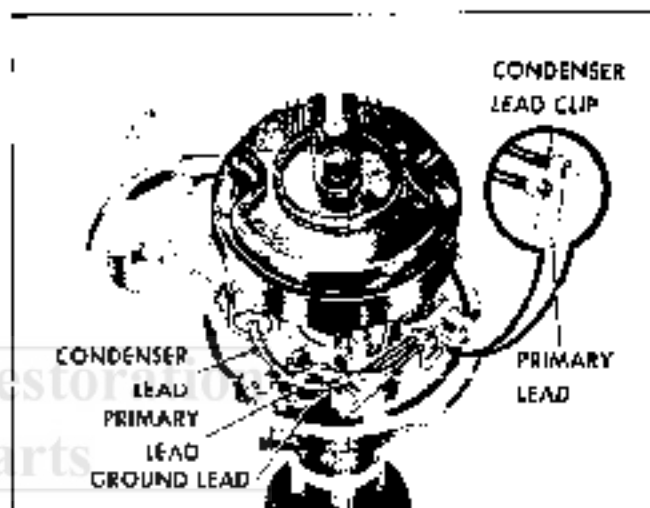

Fig. 6E-25 Arrangement of Leads
2. Remove condenser lead and primary lead from nylon insulated connection (Fig. 6E-25) to contact set.
CAREFUL: Make sure condenser lead and primary lead are located as in Fig. 6E-25. Leads must be properly located to eliminate interference between leads and cap, weight base or breaker plate.